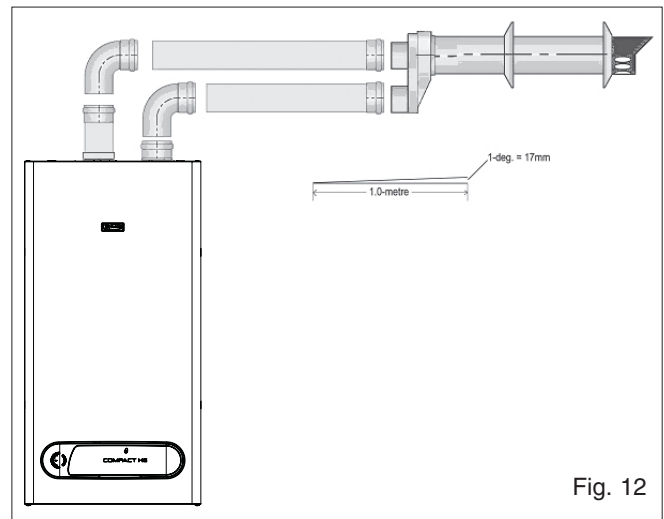

Fig. 12
- Insert the exhaust connection manifold (A) onto the appliance flue outlet.
- Remove the blanking plate (located to the right of the appliance flue outlet) and – using the same screws – install the air inlet plate (B).
- Using the hole in the exhaust connection manifold as a guide, drill a 3mm hole in the appliance flue spigot and secure the exhaust manifold connection to the flue spigot using the screw provided (C).
**4.5.3.2 HORIZONTAL TERMINATION (see fig. 12)**